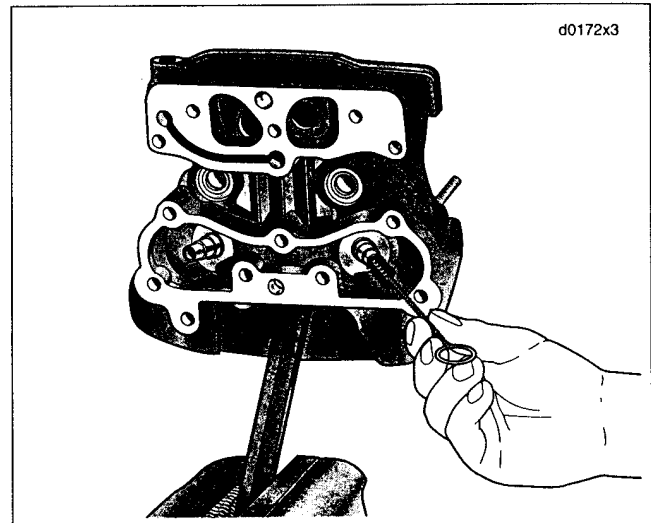

Figure 3-98. Scrubbing Valve Guide Bore
7. See Figure 3-98. Clean valve guide bore with the VALVE GUIDE CLEANING BRUSH (Part No. HD-34751-A).